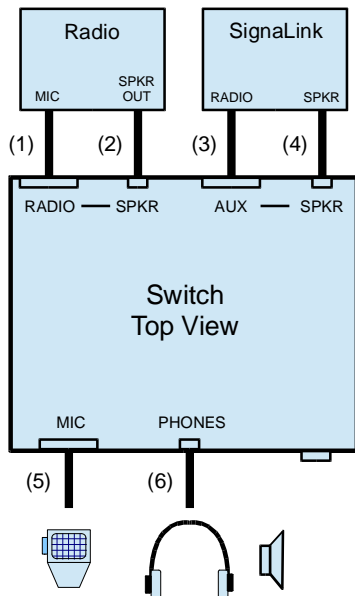

Figure 4 Signalink Installation
- 2 - The switch must be properly connected to the radio using the supplied RJ-45 to RJ-45 cable (refer to the connection block diagram shown in Figure 4 on page 3). **No other cables should be connected to the switch at this time.**
**See Figure 4 for a block diagram of this installation. Note that the cable connections shown in the diagram are**